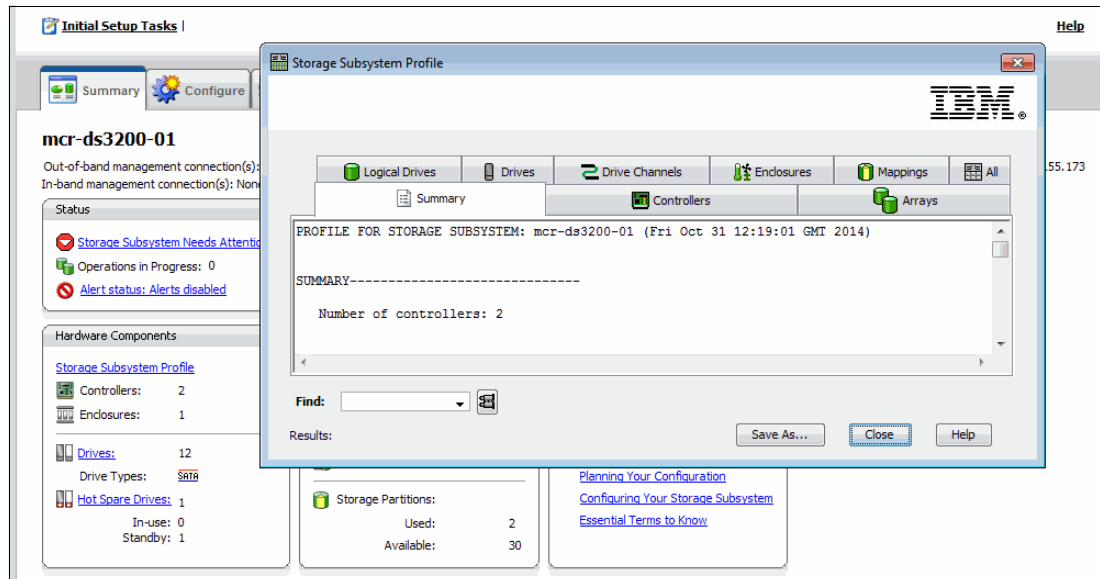

Figure 6-5 Storage Subsystem Profile: System Storage DS Storage Manager
- A new window opens to enable management of the IBM DS3200 subsystem. From the summary pane, select the **Storage Subsystem Profile** option, as shown in Figure 6-5.